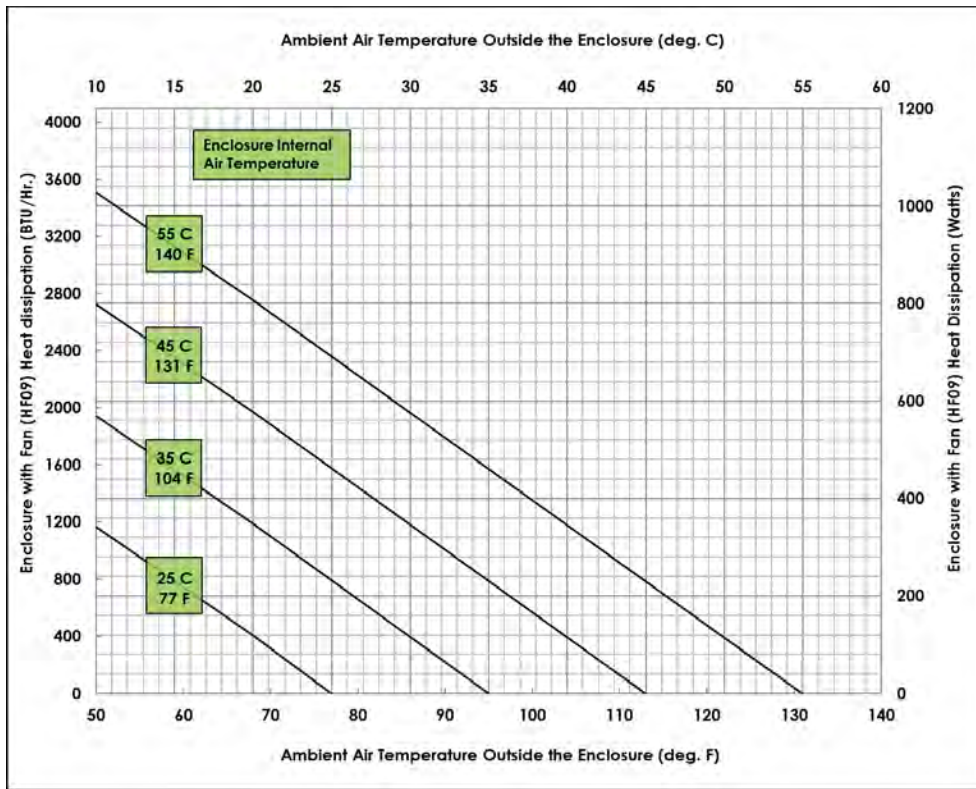

Figure 4: Z23 enclosure thermal guideline – fan assisted. The HF09 Fan is available separately from Pentair.
7. Figure 4 provides the heat dissipation guide for a Panduit Z23 enclosure heat dissipation with a HF09 fan for various external ambient temperatures with the IP54 filter kit.